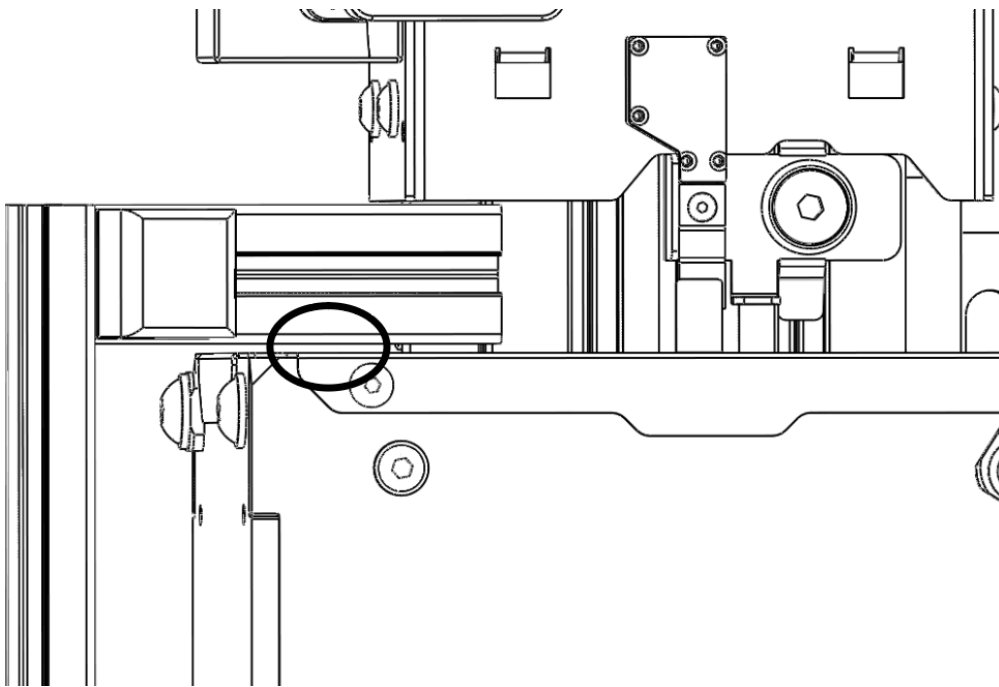

Figure 5: With the limit switch and carriage all the way up, ensure there is a gap between the horizontal support and carriage
12. **IMPORTANT:** After installing the Support Frame, move E-Billy's limit switch all the way up until it stops against the top assembly. Then, using the hold function of the remote, move the stand up until it stops at the limit switch. Ensure there is a small gap between the carriage and the part of the vertical support mounted to the stand. Repeat with automatic operation. See Figure 5.